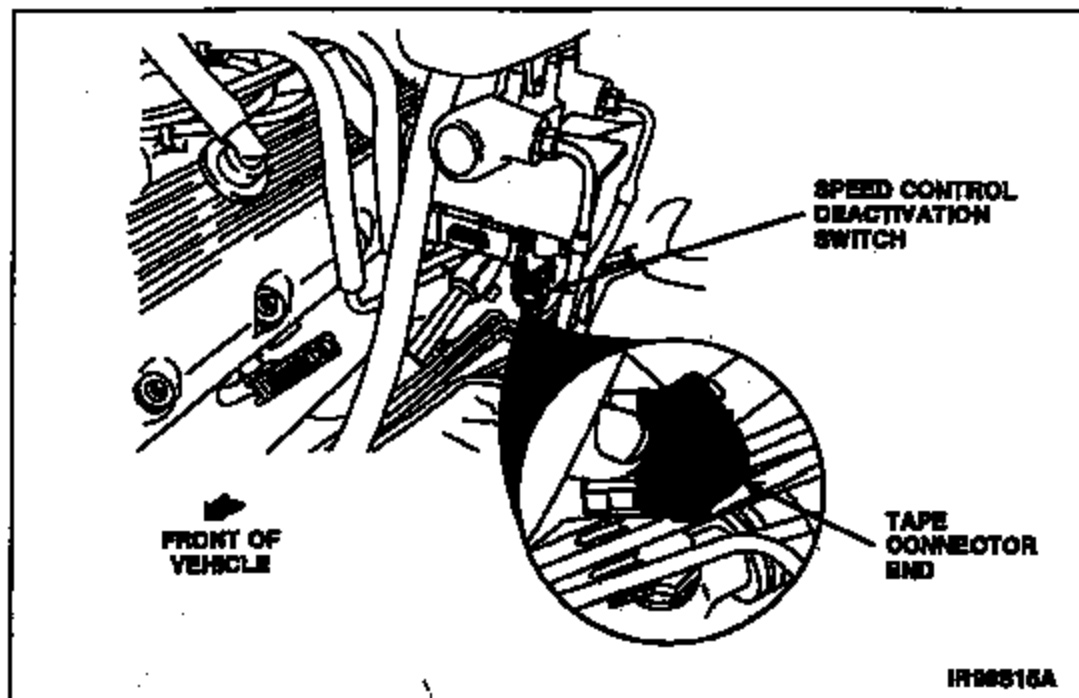

FIGURE 1
1. Disconnect the electrical connector from the speed control deactivation switch. See Figure 1.